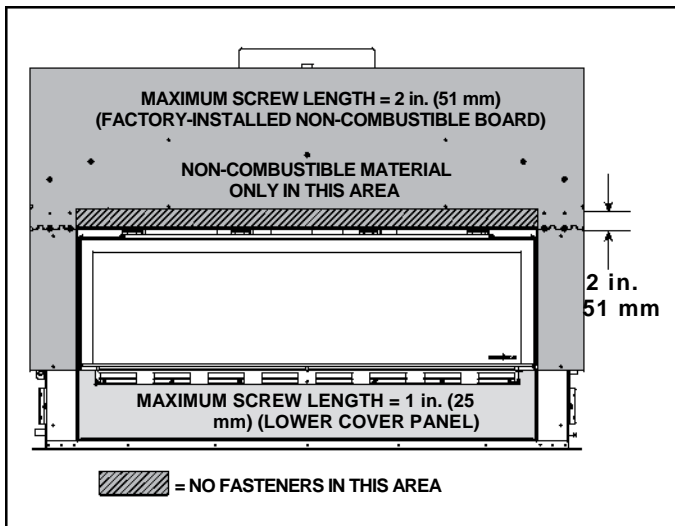

Figure 10.1 Screw Length Requirements
When finishing the wall around the fireplace, it is critical that wall sheathing be fastened properly. Wall sheathing fasteners, such as screws or nails, are not permitted in some locations. See Figure 10.1.
It is acceptable to pre-drill holes and use self-tapped screws in the factory-installed non-combustible board which may be used to lathe (a backer for tile, marble, etc.). Screws being installed through the factory-installed non-combustible board should be self-tapping type with a maximum length of 2 in. (51 mm) See Figure 10.1.
When installing finish material on the lower cover panel, DO NOT drill or install screws longer than one inch. Screws longer than one inch could penetrate the lower cover panel causing damage to components or penetrate the gas line. One inch screws are included in the manual bag assembly that are intended for use when attaching finishing material to lower cover panel. See Figure 10.1.
2. Install finishing material to the top ledge of the bottom access panel, covering the eight rectangle holes in the access panel. See Figure 10.1 for screw length requirements.
3. Install non-combustible finishing material up to the outer edges of the trim ring. See Figure 10.1 for screw length requirements.